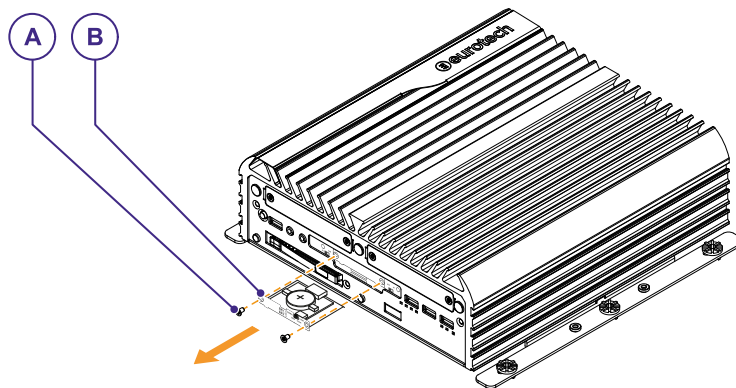

Fig. 9 - Remove the battery holder B
3. Remove the two cross-head screws **A** (M2.5, L = 3.5 mm) and extract the battery holder **B** (Fig. 9 below)